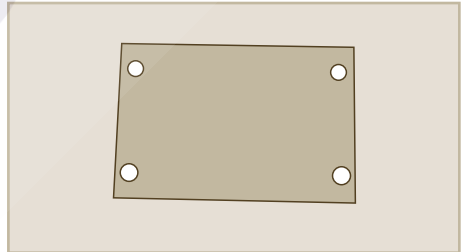

Figure 2
- 2 x Backing Plate, See Figure 2.